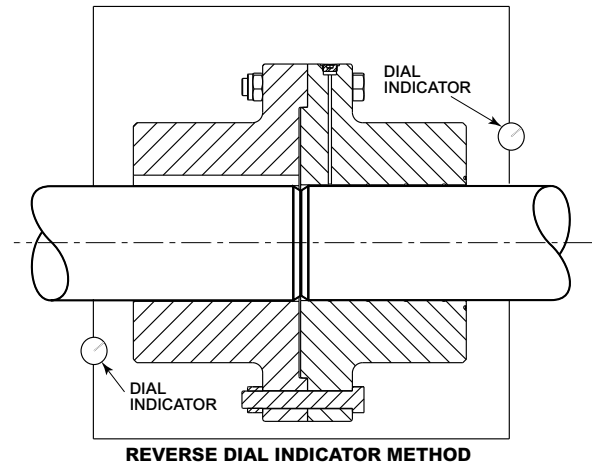

Figure 5
- 10. Using dial indicators per Figure 5, measure assembly runout on driving and driven shafts. Runout values should be within 0.005" (0.127 mm) TIR (total indicator reading) to minimize drive movement. See Table 1.